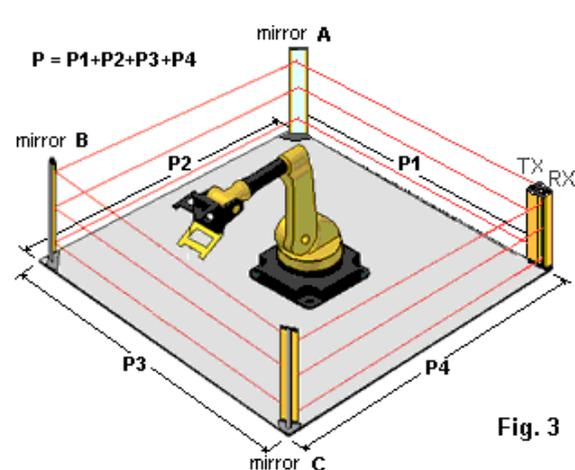

Fig. 3
- Total protection when the light curtain protects 4 sides with the employ of 3 mirrors as fig. 3.